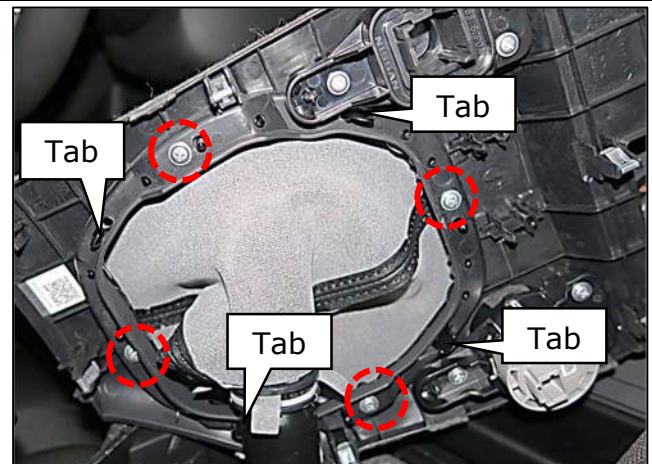
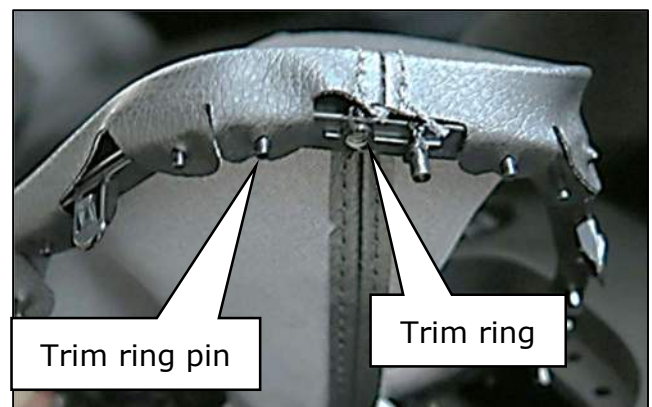

Figure 11
Figure 12
- b) Remove the (4) screws shown in Figure 11
- c) Carefully push upward on each of the (4) tabs
- g) Remove the shift boot trim ring from the shift boot by lifting the shifter boot off of each of the trim ring pins (Figure 12)